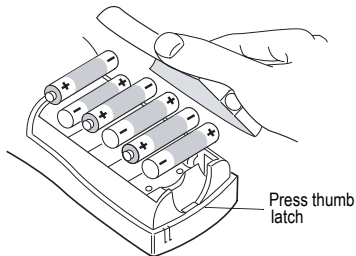

Figure 2
1. Press the thumb latch on the bottom of the labelmaker to open the battery compartment door. See Figure 2.